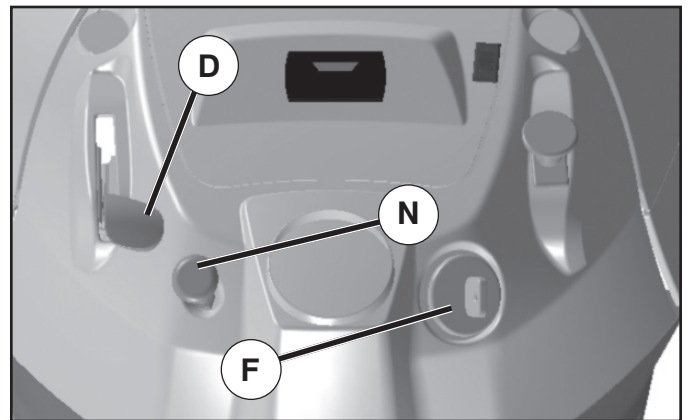

Fig. 17
- Move throttle control (D) between half and full speed (fast) position.
- Turn ignition key (F) to "STOP" position and remove key. Always remove key when leaving tractor to prevent unauthorized use.
### TO USE THROTTLE CONTROL (D) (See Fig. 17)
### TO USE CHOKE CONTROL (N) (See Fig. 17)